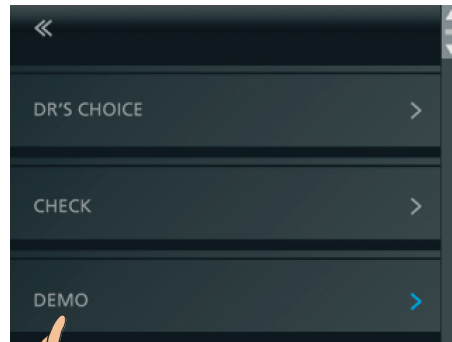

Fig. 36 Select DEMO
- Enter the Settings Menu and select the DEMO feature (Fig. 36).